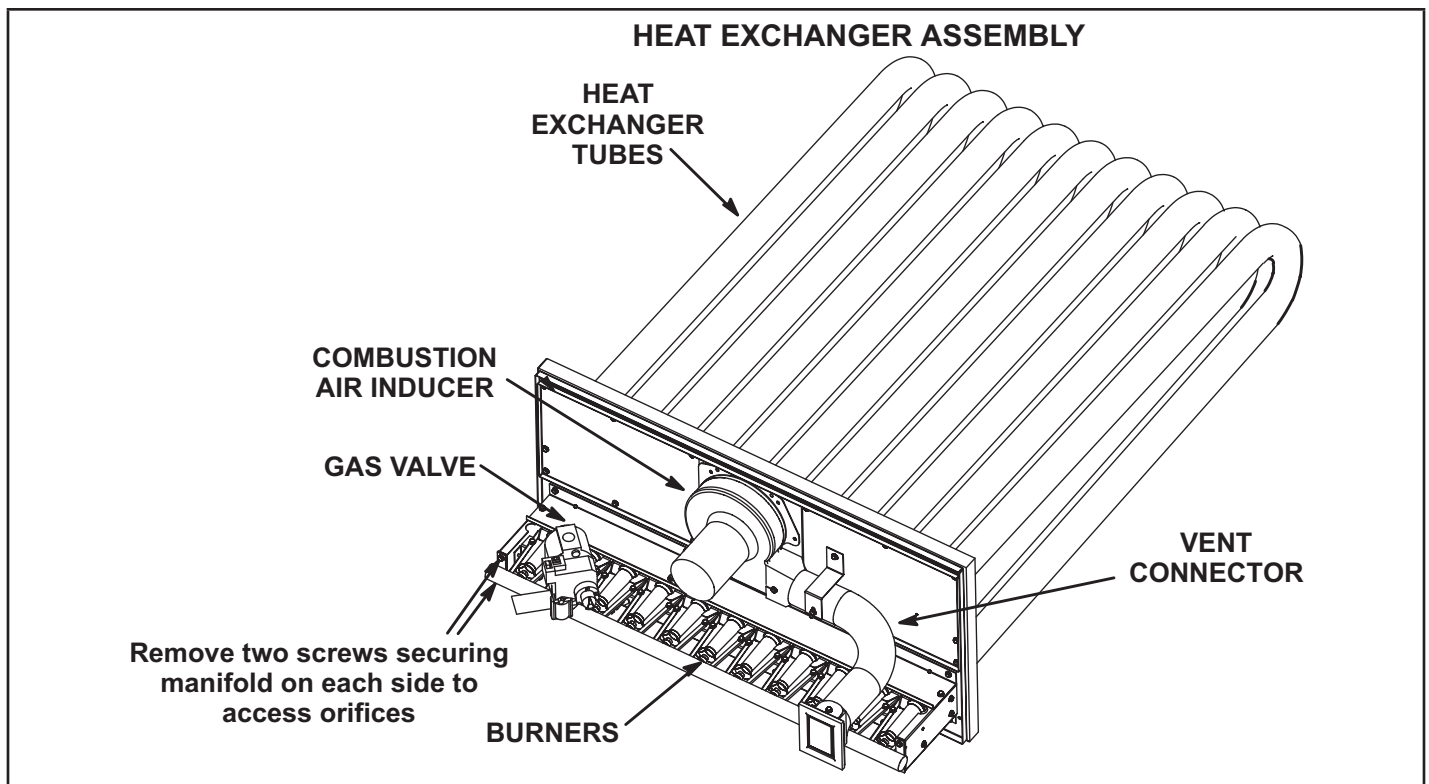

FIGURE 1
- 4 - Remove and retain four screws securing manifold to burner box. See FIGURE 1.